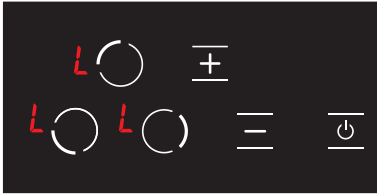

Figure 21
1. The **L** icon is displayed on all displays when the stove is on and the child lock is active. (see Fig. 21) The **L** and **H** icons are displayed alternatively if any hob is hot. You may turn the stove on or off with the **⏻** key only.